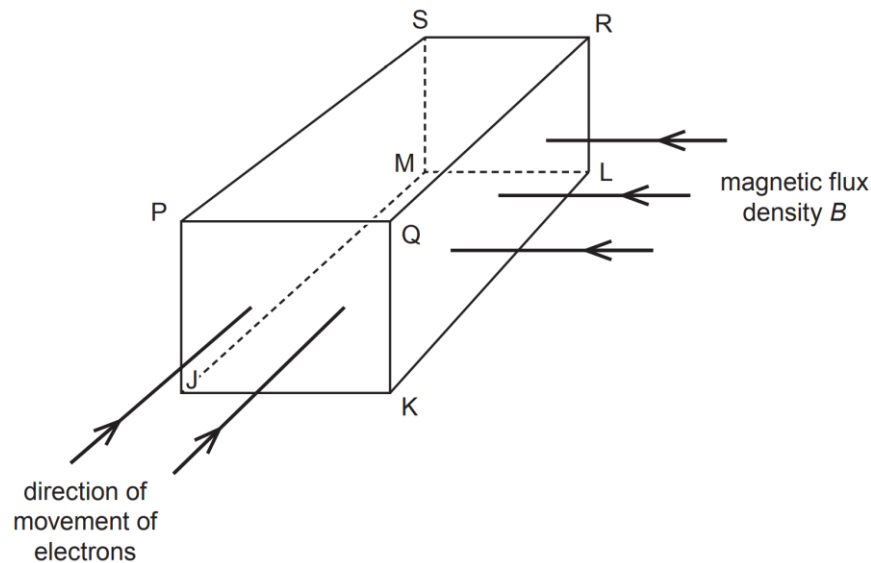

Fig. 6.1
- 6 (a) A slice of a conducting material has its face QRLK normal to a uniform magnetic field of flux density B , as illustrated in Fig. 6.1.
1. identify the faces, using the letters on Fig. 6.1, between which a potential difference is developed. State its polarity.